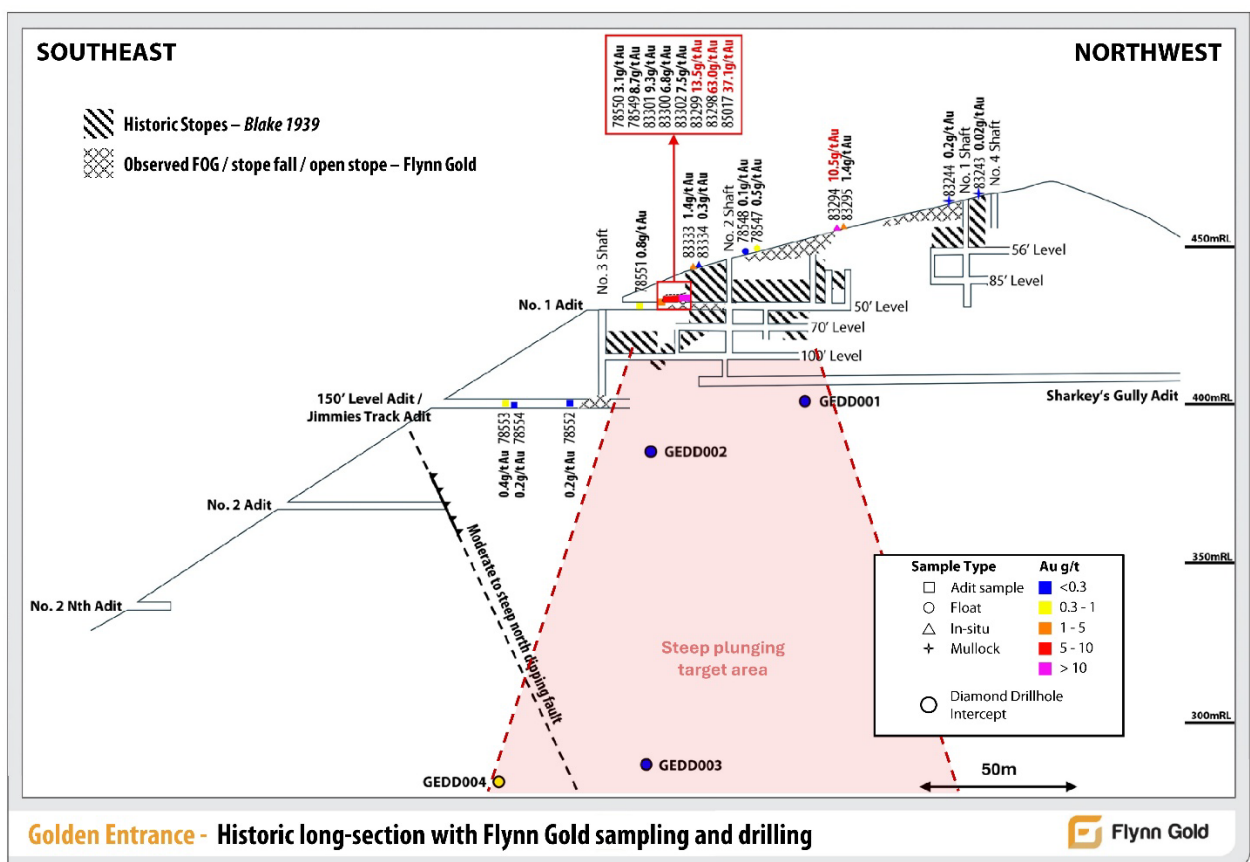

Figure 6 - Golden Entrance long section, modified from Blake (1939), showing Flynn sampling and drilling. .
- **Up to 63.0g/t Au and 37.1g/t Au** from quartz veins exposed along adit walls and backs approaching open stope areas at Golden Entrance Adit No. 1 (Figure 6).
Flynn has recently completed an EDGI co-funded diamond drilling program at Golden Entrance, designed to test for extensions of mineralisation beneath historical workings in an area with no prior drilling. The program targeted interpreted down-plunge positions of historically mined high-grade shoots (Figure 6).